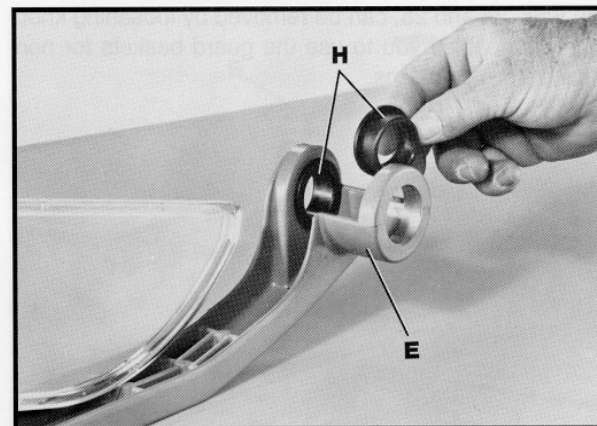

Fig. 29
16. Assemble plastic bushings (H) Fig. 29, to inside of both holes in basket arm bracket (E), as shown.